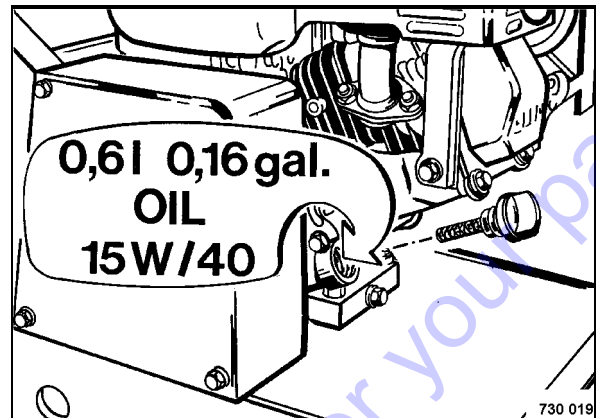

Fig. 34
- Fill in new engine oil through the filler opening (Fig. 34).